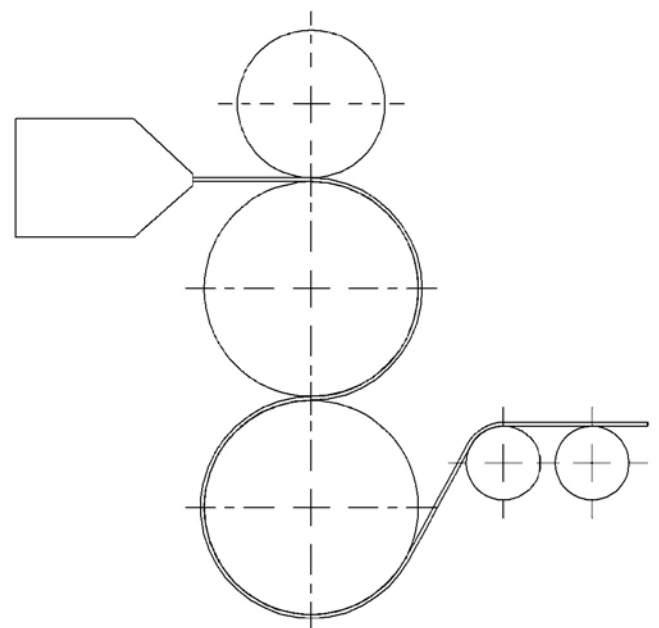

Figure 36.20 (Courtesy of Borealis AG)
- Calender stack technology (Figure 36.20)